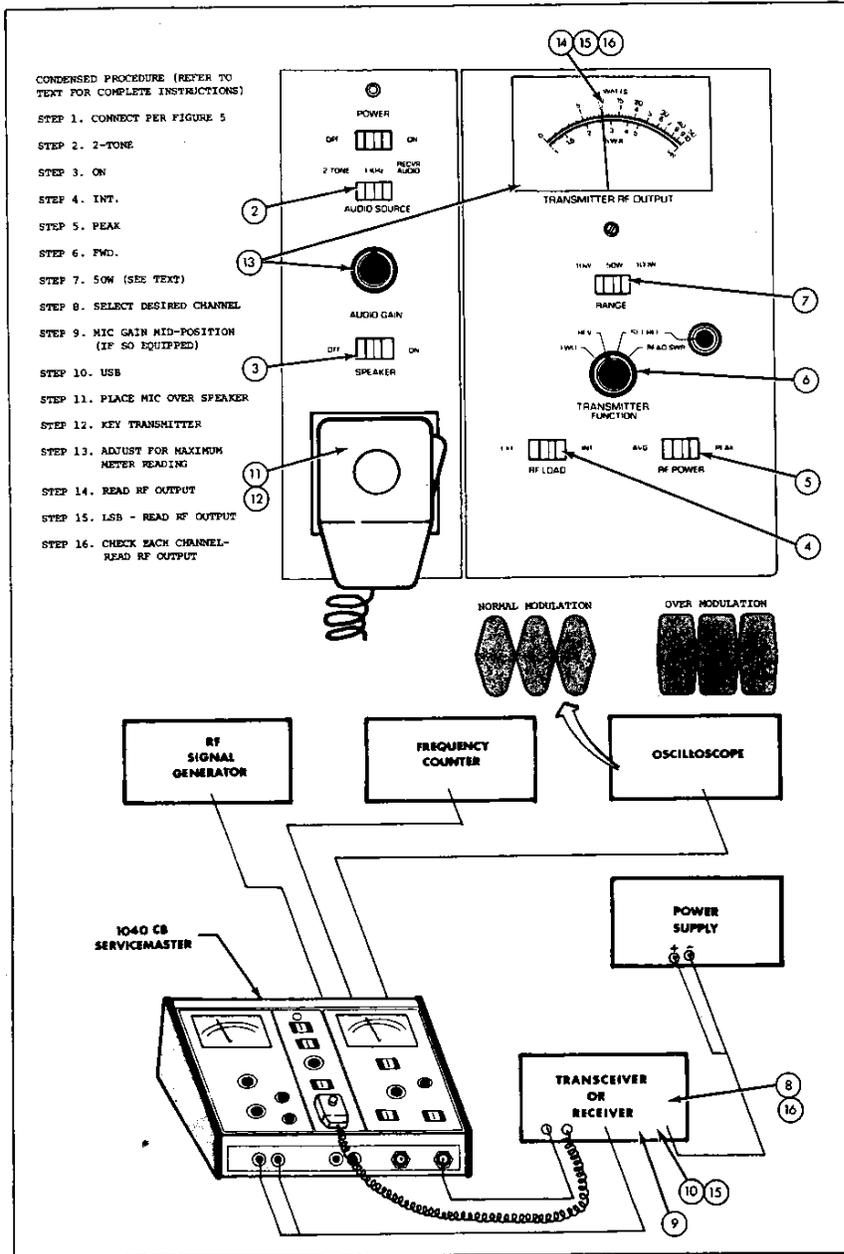

Fig. 14. SSB Transmitter RF Power Check
SSB TRANSMITTER RF POWER CHECK (Refer to Fig. 14)
SSB TRANSMITTER MODULATION CHECK (Refer to Fig. 14)
2. With the AUDIO GAIN control (10) fully counterclockwise, RF meter (13) should indicate zero output from the transmitter.
3. Place transceiver microphone over ServiceMaster speaker and slowly increase AUDIO GAIN (10).
5. Adjust the oscilloscope for a stable display which should resemble that shown in Fig. 14 (normal modulation).
6. Continue increasing the AUDIO GAIN setting. When maximum power is approached, the amplitude of the waveform ceases to increase and the peaks flatten out. This is the Overmodulation condition of Fig. 14, which is called flat-topping.